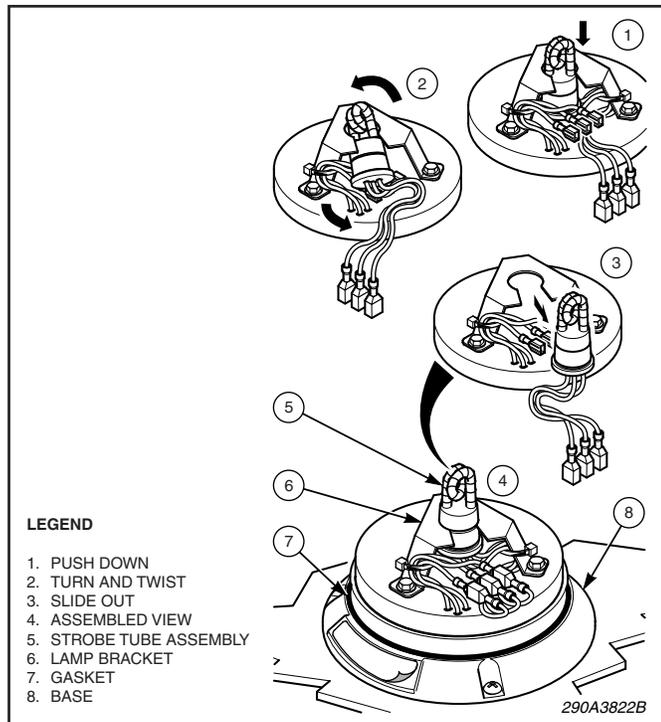
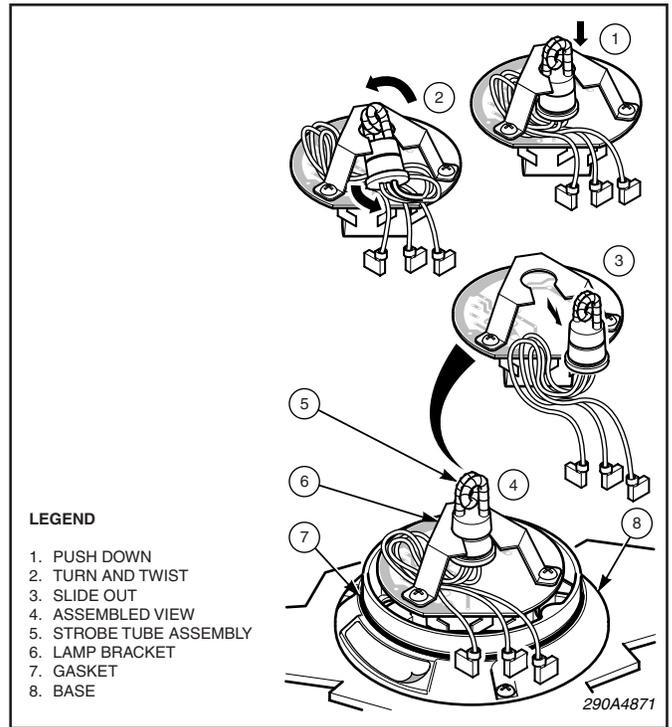

Figure 4.
Figure 5.
2. Using long nose pliers, disconnect the strobe tube's red, white, and black wires at the edge of the PCB (potted models, figure 4) or at the wire terminal connections (unpotted models, figure 5).